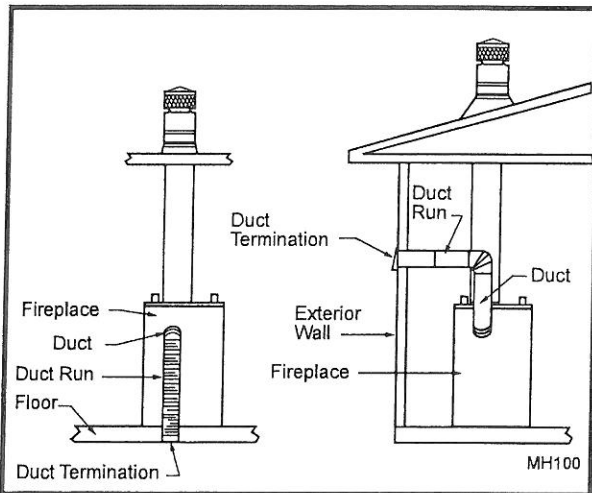

Fig. 12 Typical duct installations.
Duct run must be limited to a maximum distance of 20' (3 m) from the fireplace pipe collar to duct termination. This will provide the least restriction to air flow. No more than two 90° elbows can be used. Duct run may be horizontal, vertical inclined downward or upward, or any combination of these. Upward vertical duct runs must be limited in height to one (1) foot above the fireplace before being run horizontally and terminated out-of-doors. (Fig. 12)